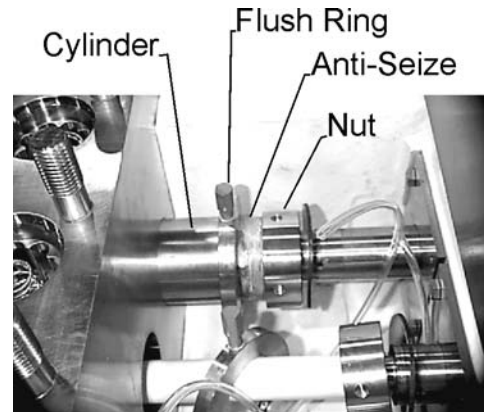

Figure 46 *Location of Flush Ring and Nut*
9. Slide flush ring onto cylinder so flush hole in ring is directly over flush hole in cylinder. The flushing ring covers the hole in the top of the cylinder. See Figure 46.
10. Coat cylinder threads with anti-seize compound. See Figure 46.
11. Place the nut over the cylinder and tighten it in place. (BY HAND ONLY) See Figure 46.